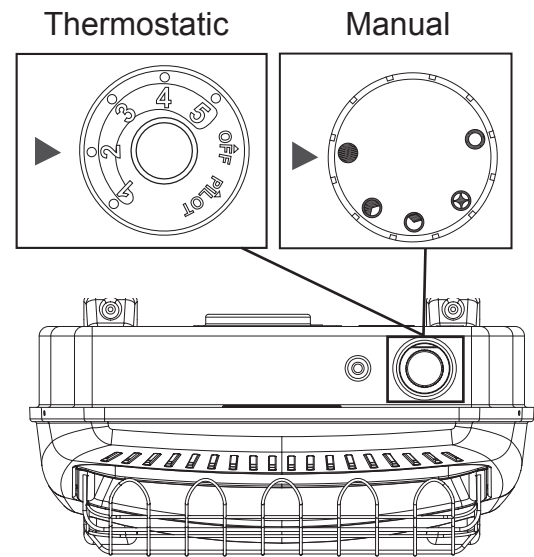

Fig. 25 - Control Knob Position
The thermostat used on this heater senses the room temperature. At times the room may exceed the set temperature. If so, the burner will shut off. The burner will cycle back on when room temperature drops below the set temperature. The control knob can be set to any comfort level between "HIGH" (5) and "LOW"(1) (See Fig. 25).
Manual valves remain burning in the desired setting until manually turned to OFF "○"(See Fig. 25).